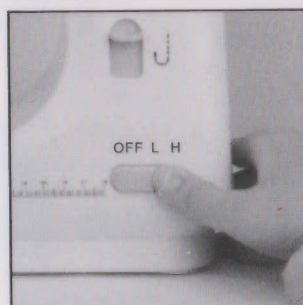

Fig.9
6. Slide the power switch to the Low or High speed position and the machine will automatically start sewing. We recommend the low speed for beginners (Fig. 9).